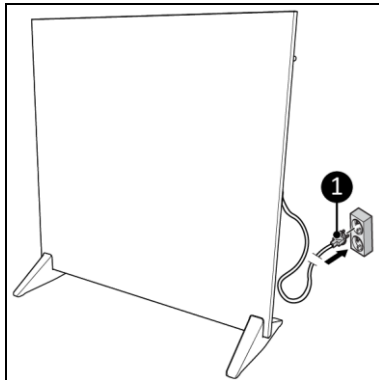

Figure 11
2. Place the power plug (Figure 11, pos. 1) into an earthed wall socket that is easily accessible. Use an earthed wall socket with a minimum power of 500 Watt.
1. Disconnect the power plug from the power outlet (Figure 11).